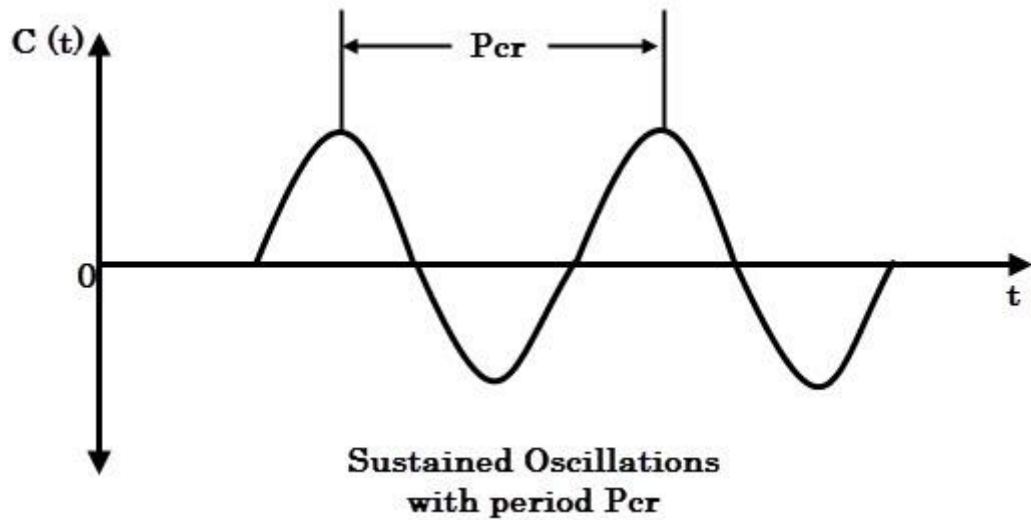

Figure 7: Second Method Response
2. Increase K_p from 0 to some critical value $K_p=K_{cr}$ at which sustained oscillations occur, as demonstrated by Figure 7.
4. Notice from Figure 7 the value of K_{cr} , and the corresponding period of sustained oscillation P_{cr} .